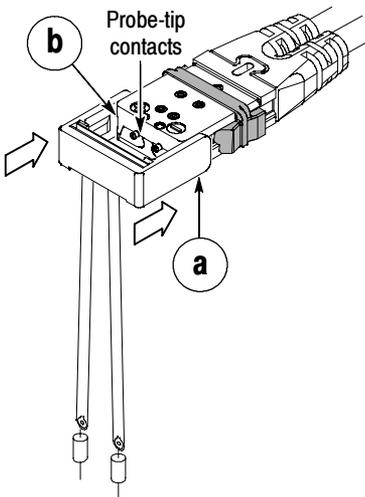

Figure 5: Installing a Tip-Clip assembly
- a. Grasp the sides of the Tip-Clip assembly and slide it toward the back of the probe tip. You will feel the Tip-Clip assembly click past a ridge on the probe tip when it is properly seated. See Figure 5.